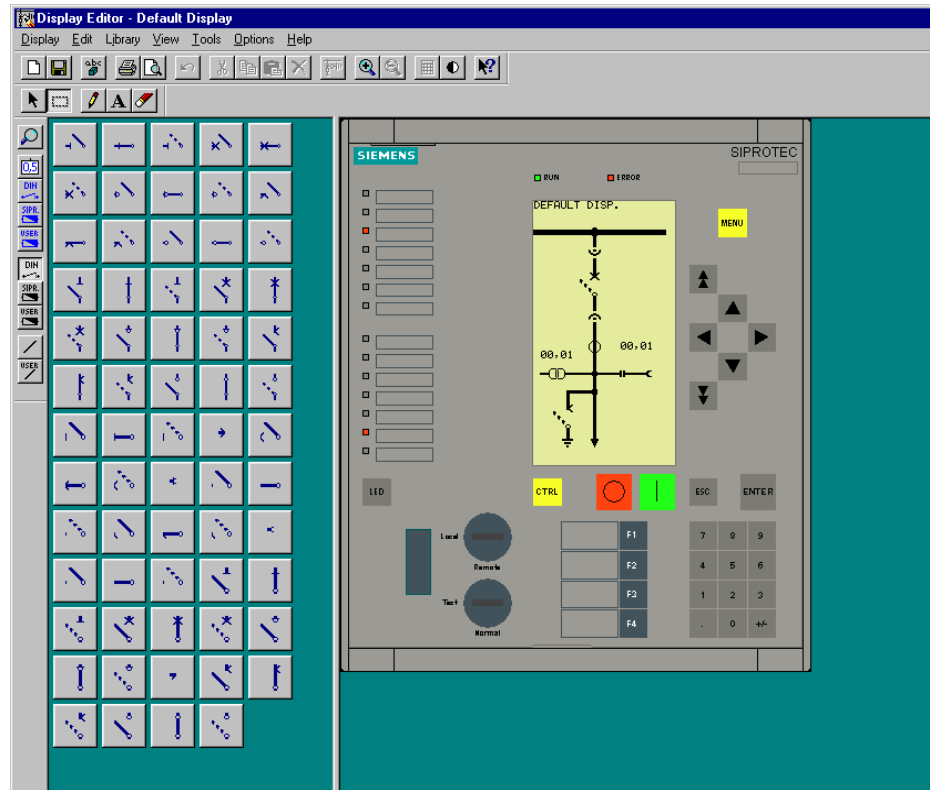

Figure 5-49 Default Display in Normal Size View
- Check the finished default display. The grid may be hidden by clicking **View** → **Grid**, equipment may be selected (brought to the front) by clicking **View** → **Make active**, and a view of the overall relay with default display may be selected by clicking **View** → **Normal size** (see Figure 5-49).